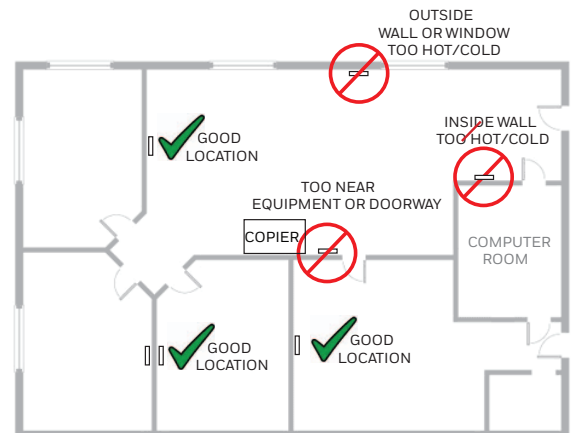

Fig. 1.
1. **IMPORTANT!** Per Fig. 1 locate sensor in an area away from ventilation sources and heat generating equipment and appliances. Sensor should be mounted at light switch height in a vertical orientation. Use insulating material behind sensor to ensure reading accuracy.